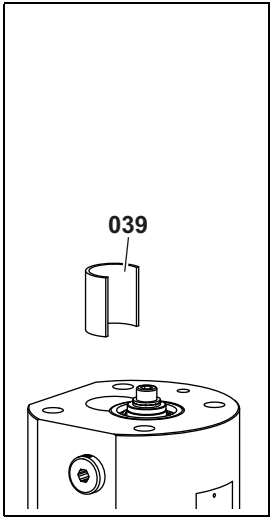

Fig. 5
4. Slide the set of screws in the measuring housing **128**. Slide the distance sleeve **039** into the hole of the measuring screw small **672.2**, see Fig. 5, page 30.